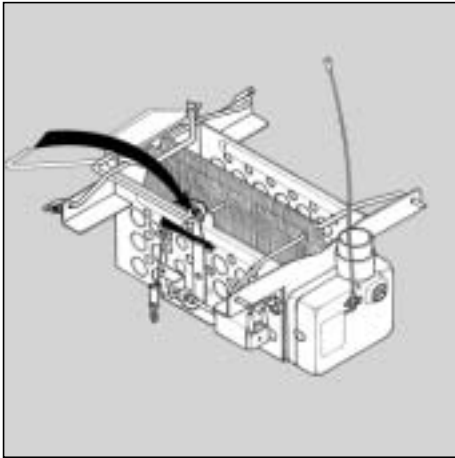

Figure 7. Setting the latch.
- 2) Place the release lever under the latch roller bearing (Figure 7).